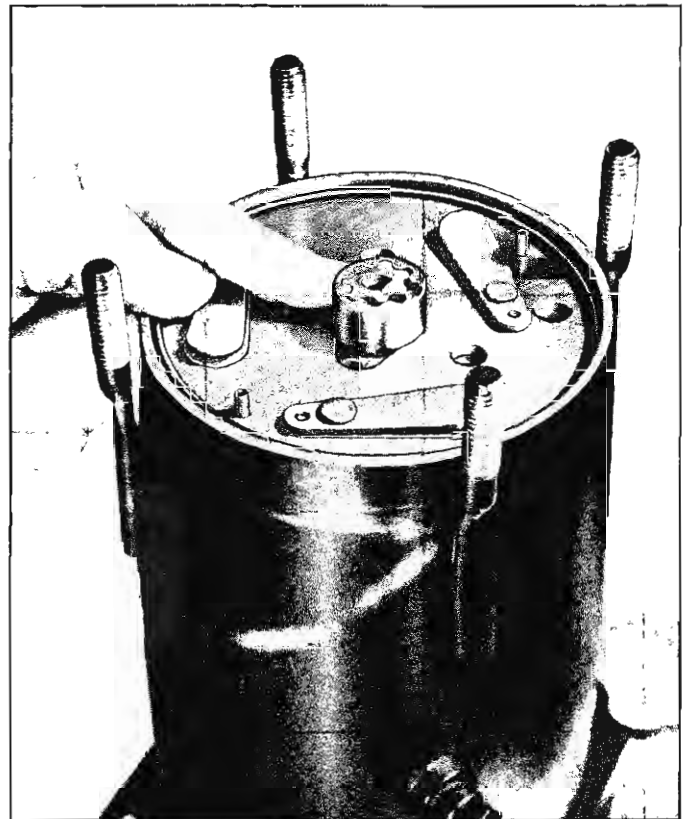

Fig. 26—Proper Oil Pump Gear Positioning
- c. Facing the centerline of the sump and viewing from the sump side (bottom) of the compressor, move the OUTER gear toward the right (side having the oil test fitting) until it is at approximately 90° (3 o'clock position) from the centerline of the oil sump (fig. 26).